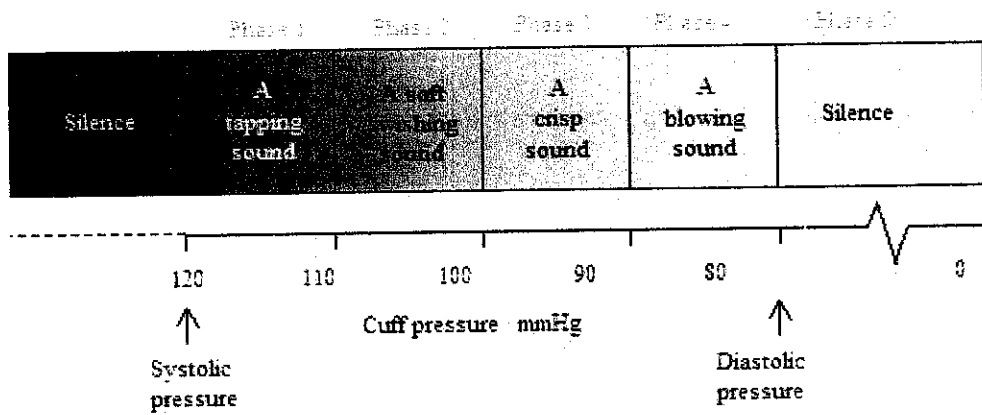

Figure 3: 5 Phases of Korotkoff Sounds. Source: <http://www.medphys.ucl.ac.uk>
- Figure 3:** 5 Phases of Korotkoff Sounds